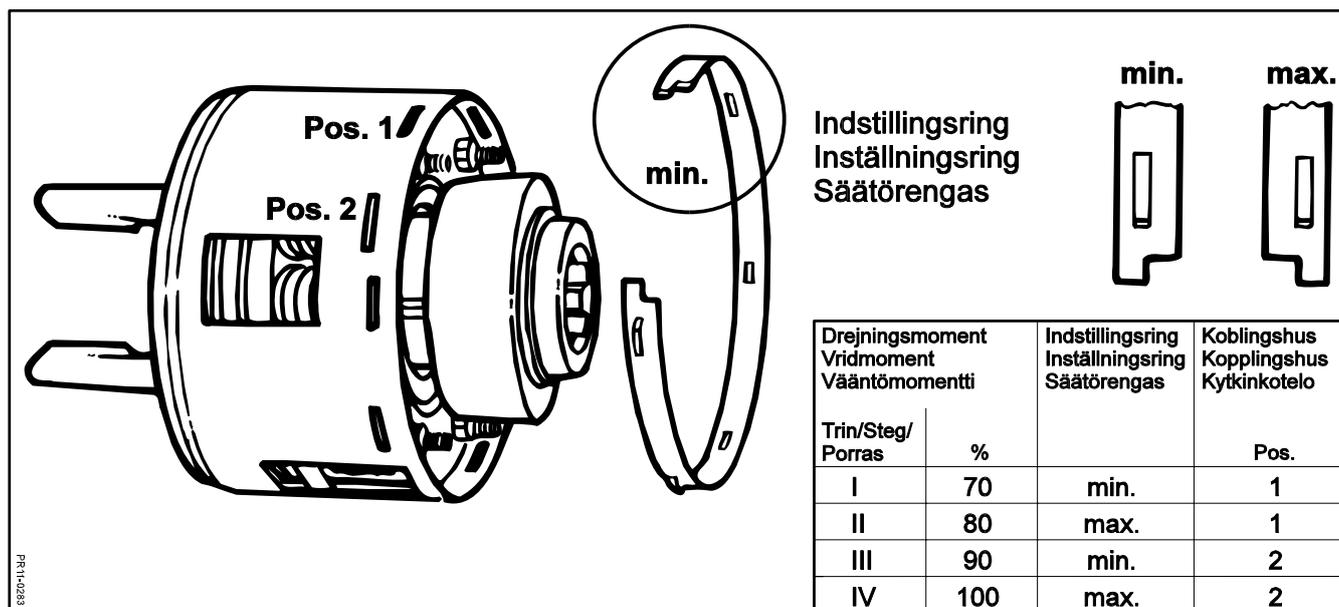

Fig. 5-3
**Fig. 5-3** The torque in the friction clutch has 4 different torque adjustments, which should be adapted as required. This is done by turning the adjustment ring and by choosing 2 different positions in the clutch housing.
2. The clutch housing has two sets of slots in the height into which the adjustment ring can be mounted, **pos. 1 and pos. 2**.